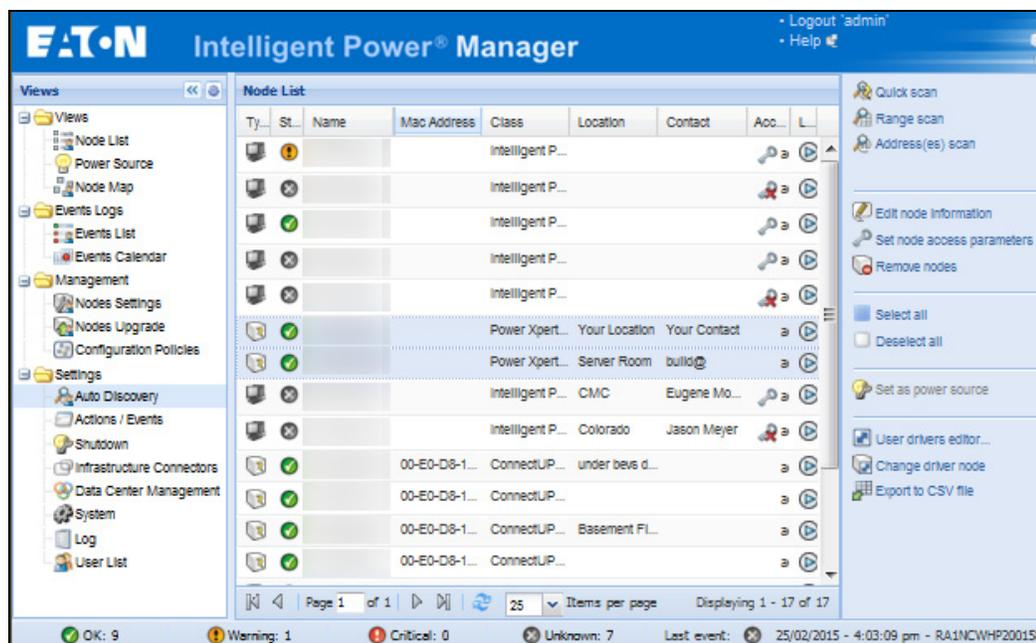

Figure 102. Selecting Set Composite Device for Nodes
4. Click **Set composite device** in the right panel (see Figure 102).
Three actions you can perform on the new node are as follows (see Figure 102):